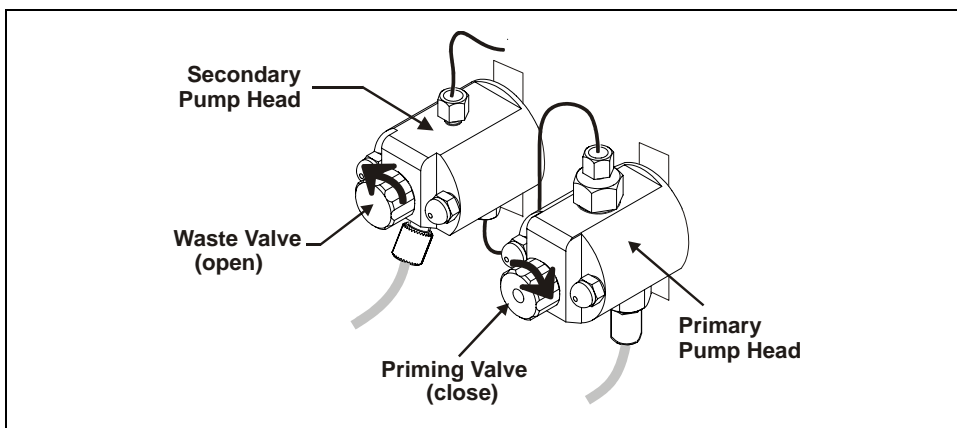

Figure B-37. Priming the Pump
1. Check that the priming valve on the primary pump head is closed (see Figure B-37).
2. Open the waste valve on the secondary pump head by turning the knob one-quarter to one-half turn counterclockwise (see Figure B-37). Opening the valve directs the eluent flow path to waste and eliminates backpressure.